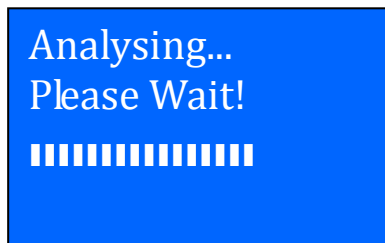

Figure 23
13. Once the CCA rating of the battery is confirmed, press  key will start the testing process. Refer to the display below (Fig. 23).